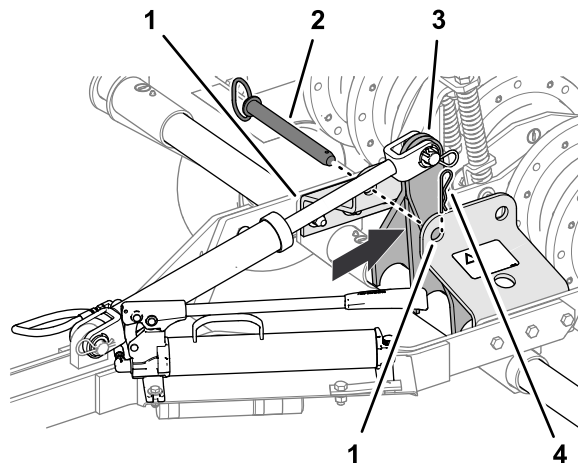

Figure 12
5. Use the hydraulic hand pump, move the lift arm (Figure 12) just rearward of the forward holes in the lock-bar bracket (transport position).
6. Insert the lock-bar pin into the forward holes in the lock-bar bracket and secure the lock-bar pin to the bracket with the hairpin (Figure 12).